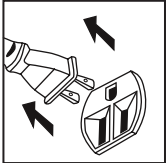

Fig. 1
1. Verify the power plug is not connected to the power supply (Fig. 1).